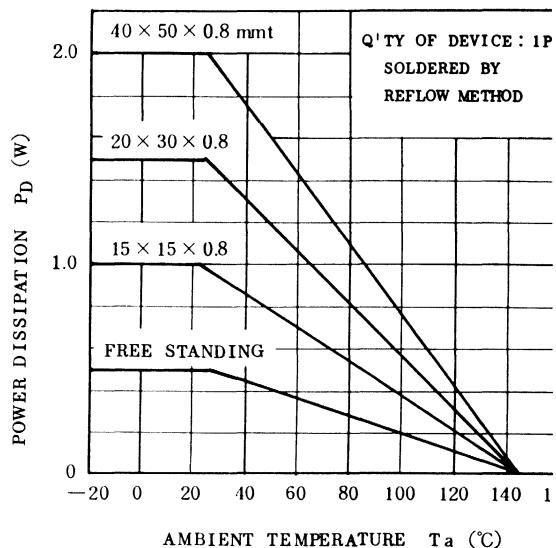

Fig.23 $P_D(\text{max}) - T_a$ characteristic when mounted on aluminium/ceramic substrate
(5) Power dissipation (P_{Cmax}) of Power Mini IC at free standing application is 500mW. However, when mounted on a substrate, thermal radiation from the fin to the substrate becomes large and power dissipation increases to as large as 1.0W~2.0W and a circuit design equivalent to TO-92MOD (800~900mW) or TO-126 (1.0~1.2W) becomes possible. Fig. 23 shows examples of allowable power dissipation of TA78L05F.